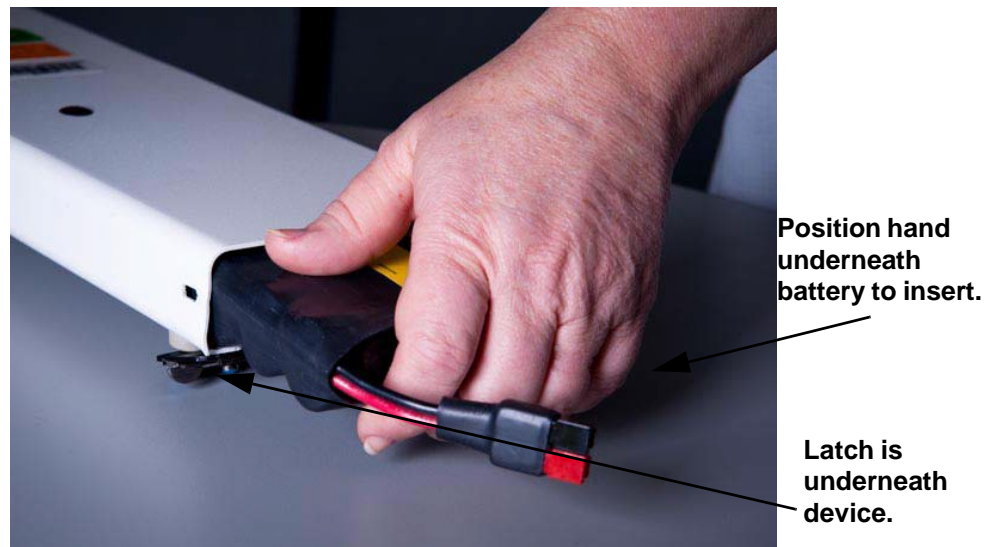

Figure 3-3, Properly Installing the Battery
5. Ensure the connectors are positioned on the side (not the top or bottom) of the battery. Slide the battery into the battery compartment by holding the battery underneath and ensuring the wires are aligned properly (See Figure 3-3, Properly Installing the Battery, below).